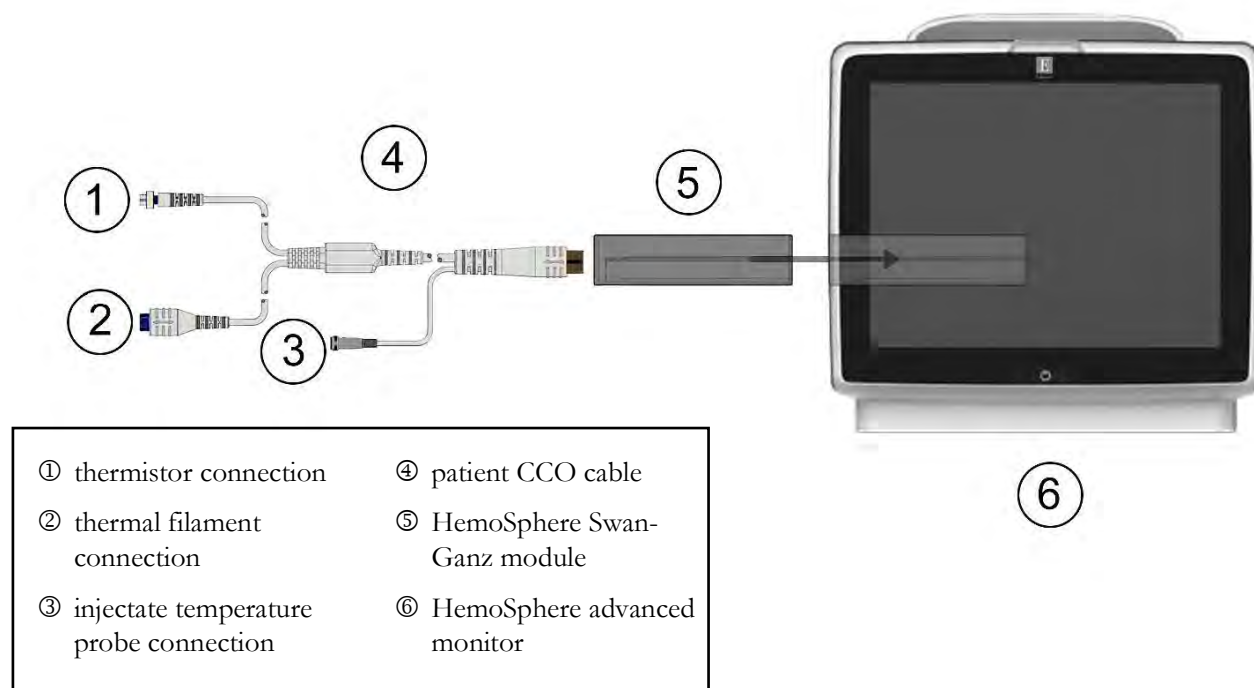

Figure 4-1 HemoSphere Swan-Ganz module monitoring connection overview
Refer to figure 4-1 for HemoSphere Swan-Ganz module monitoring connections.
- 1 Attach the thermistor ① and thermal filament ② Swan-Ganz CCO catheter connections (figure 4-1) to the patient CCO cable.
- 1 Attach the Swan-Ganz catheter thermistor connection (①, figure 4-1) to the patient CCO cable.
- 2 Connect the injectate temperature probe to the injectate temperature probe connector ③ on the patient CCO cable. The injectate system type (in-line or bath) is automatically detected.
- 1 Attach the thermistor ① and thermal filament ② Swan-Ganz volumetric catheter connections (figure 4-1) to the patient CCO cable.